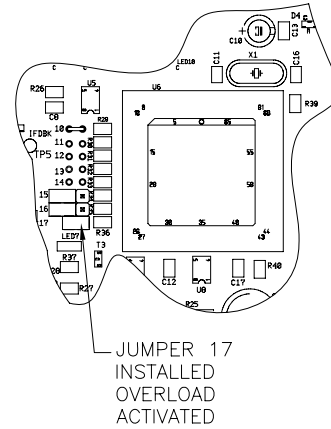

Figure 30: Jumper Location - Overload Activation
2. Place the jumper across the two (2) pins at location 17 on the main PC board (see Figure 30).
The display at the rear of the applicator also doubles as a microamp bar graph meter when high voltage is on (see Figure 30). Its' function is similar to that of the control unit bar graph display.